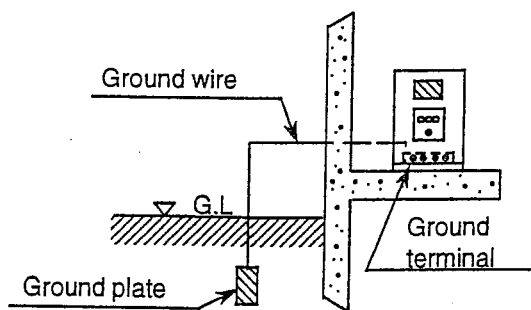

Fig. 6.3
(2) Grounding (Fig. 6.3 and Table 6.1)